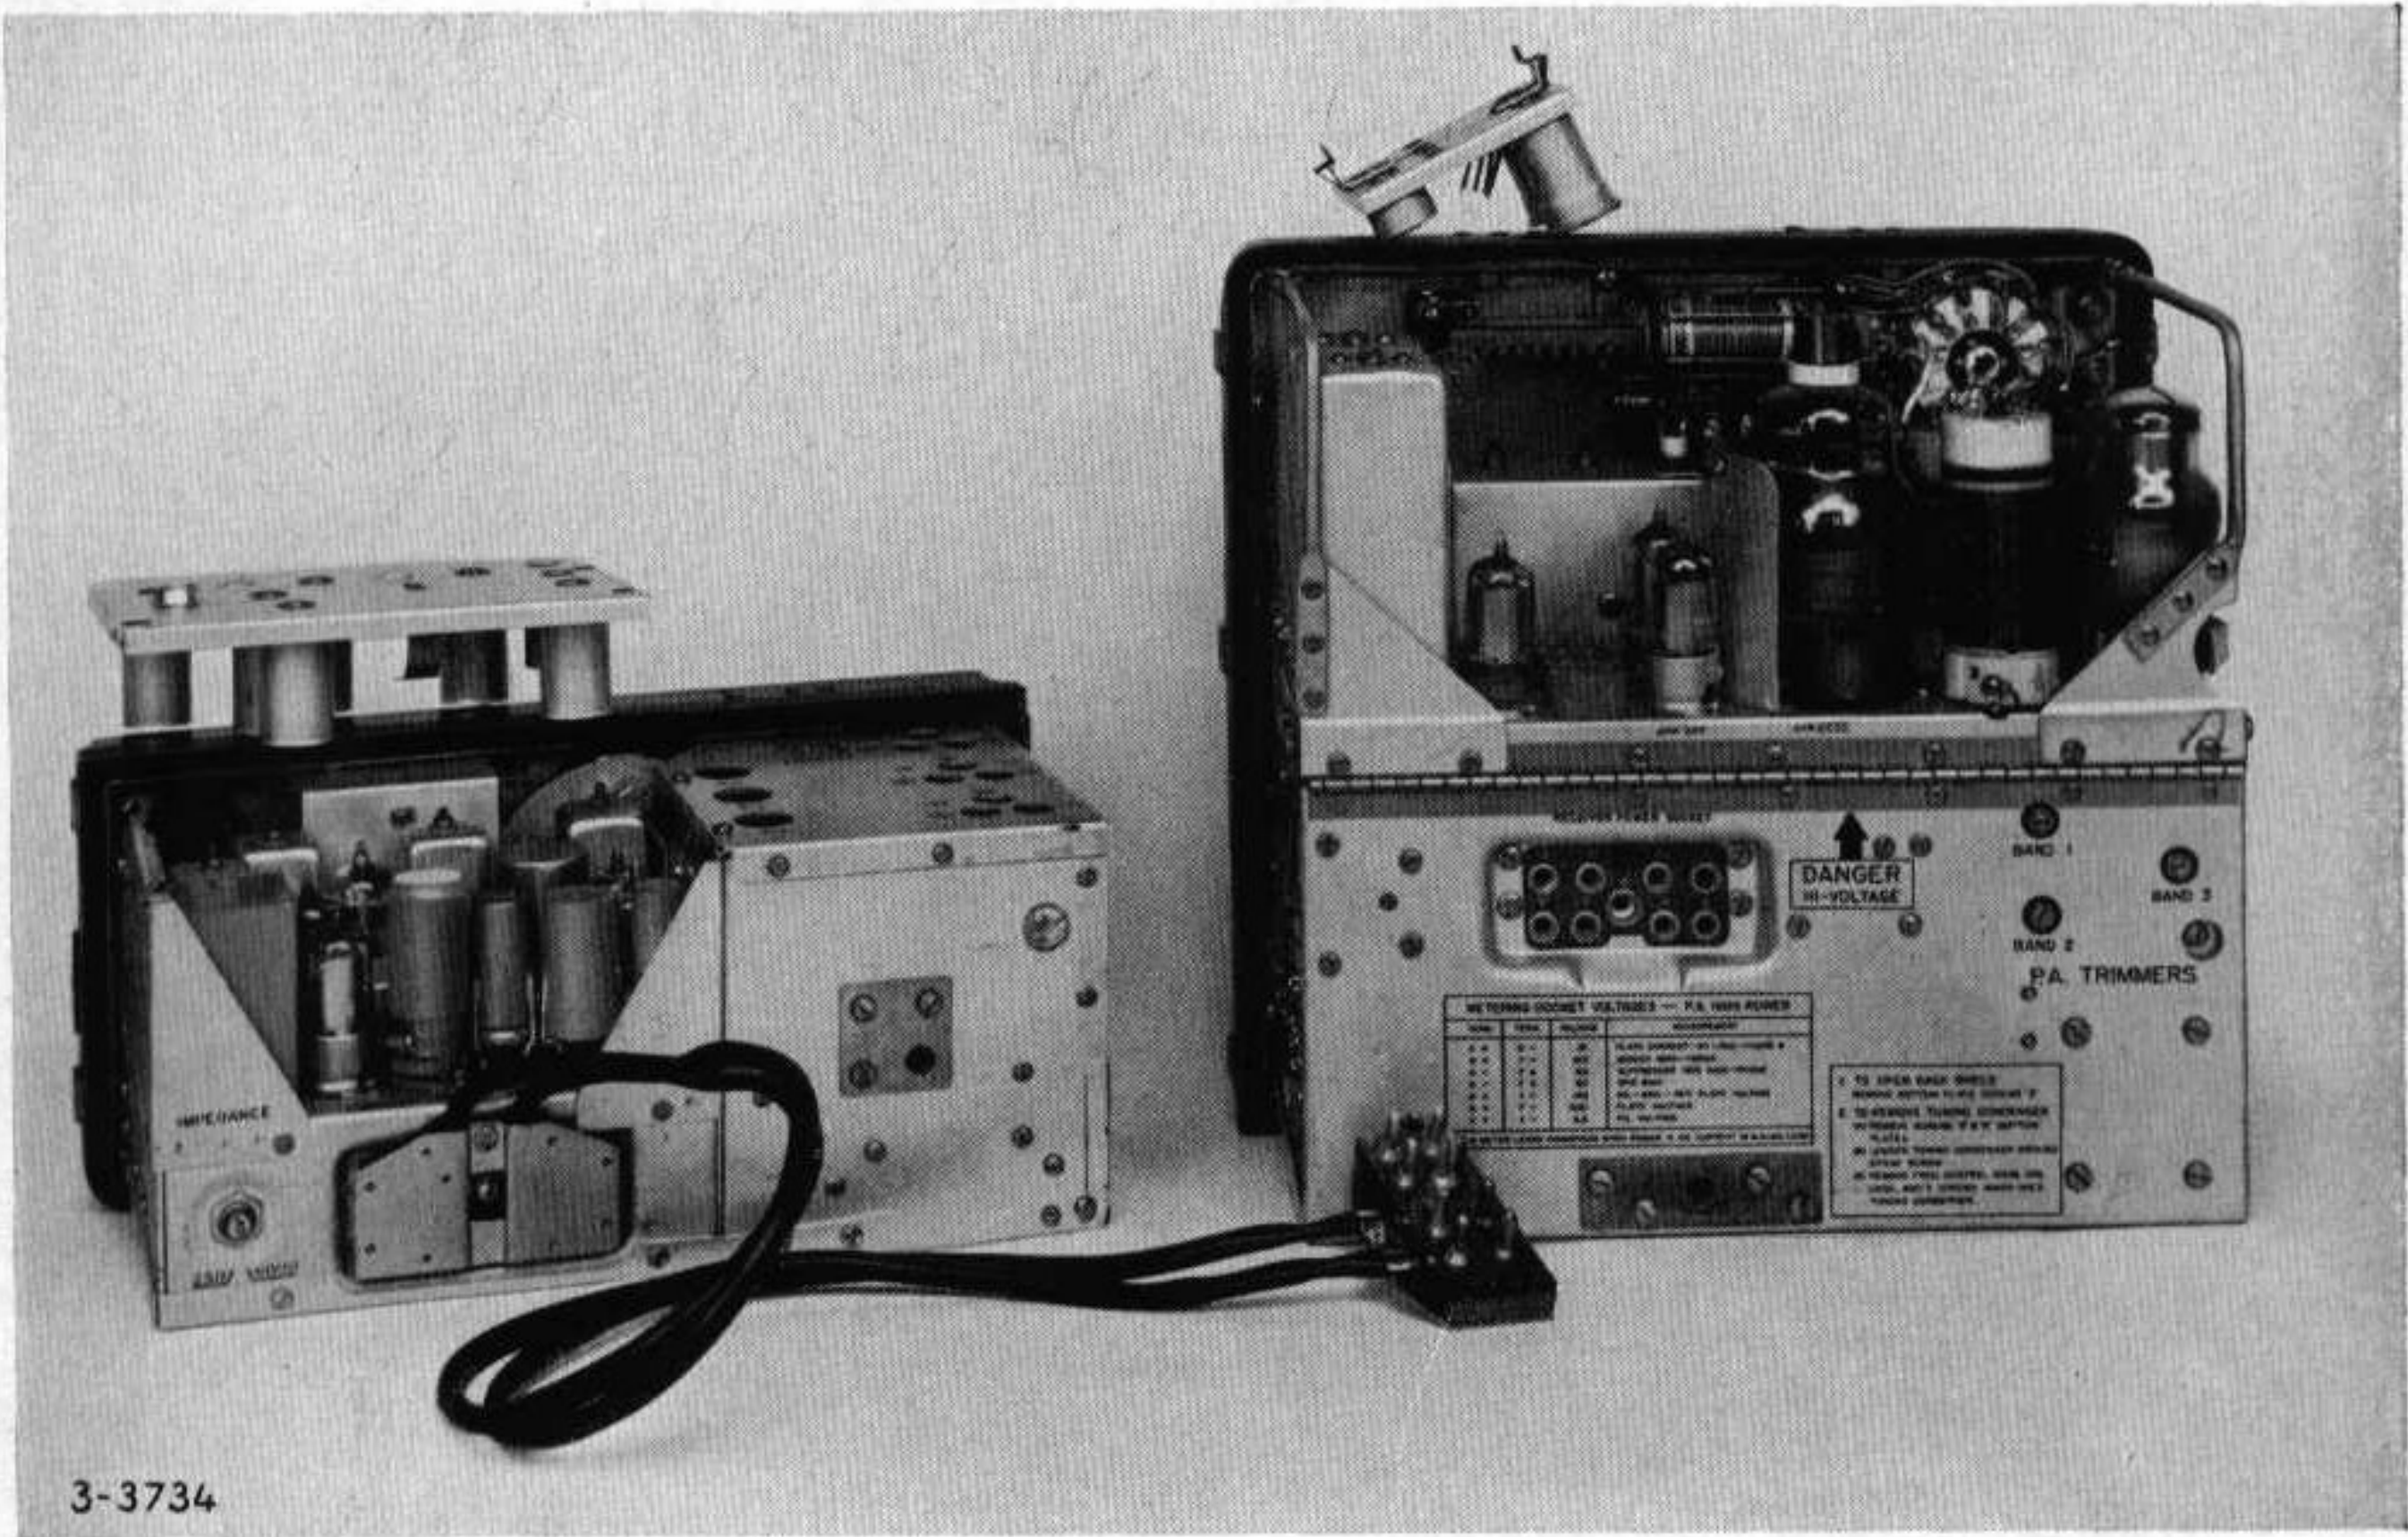
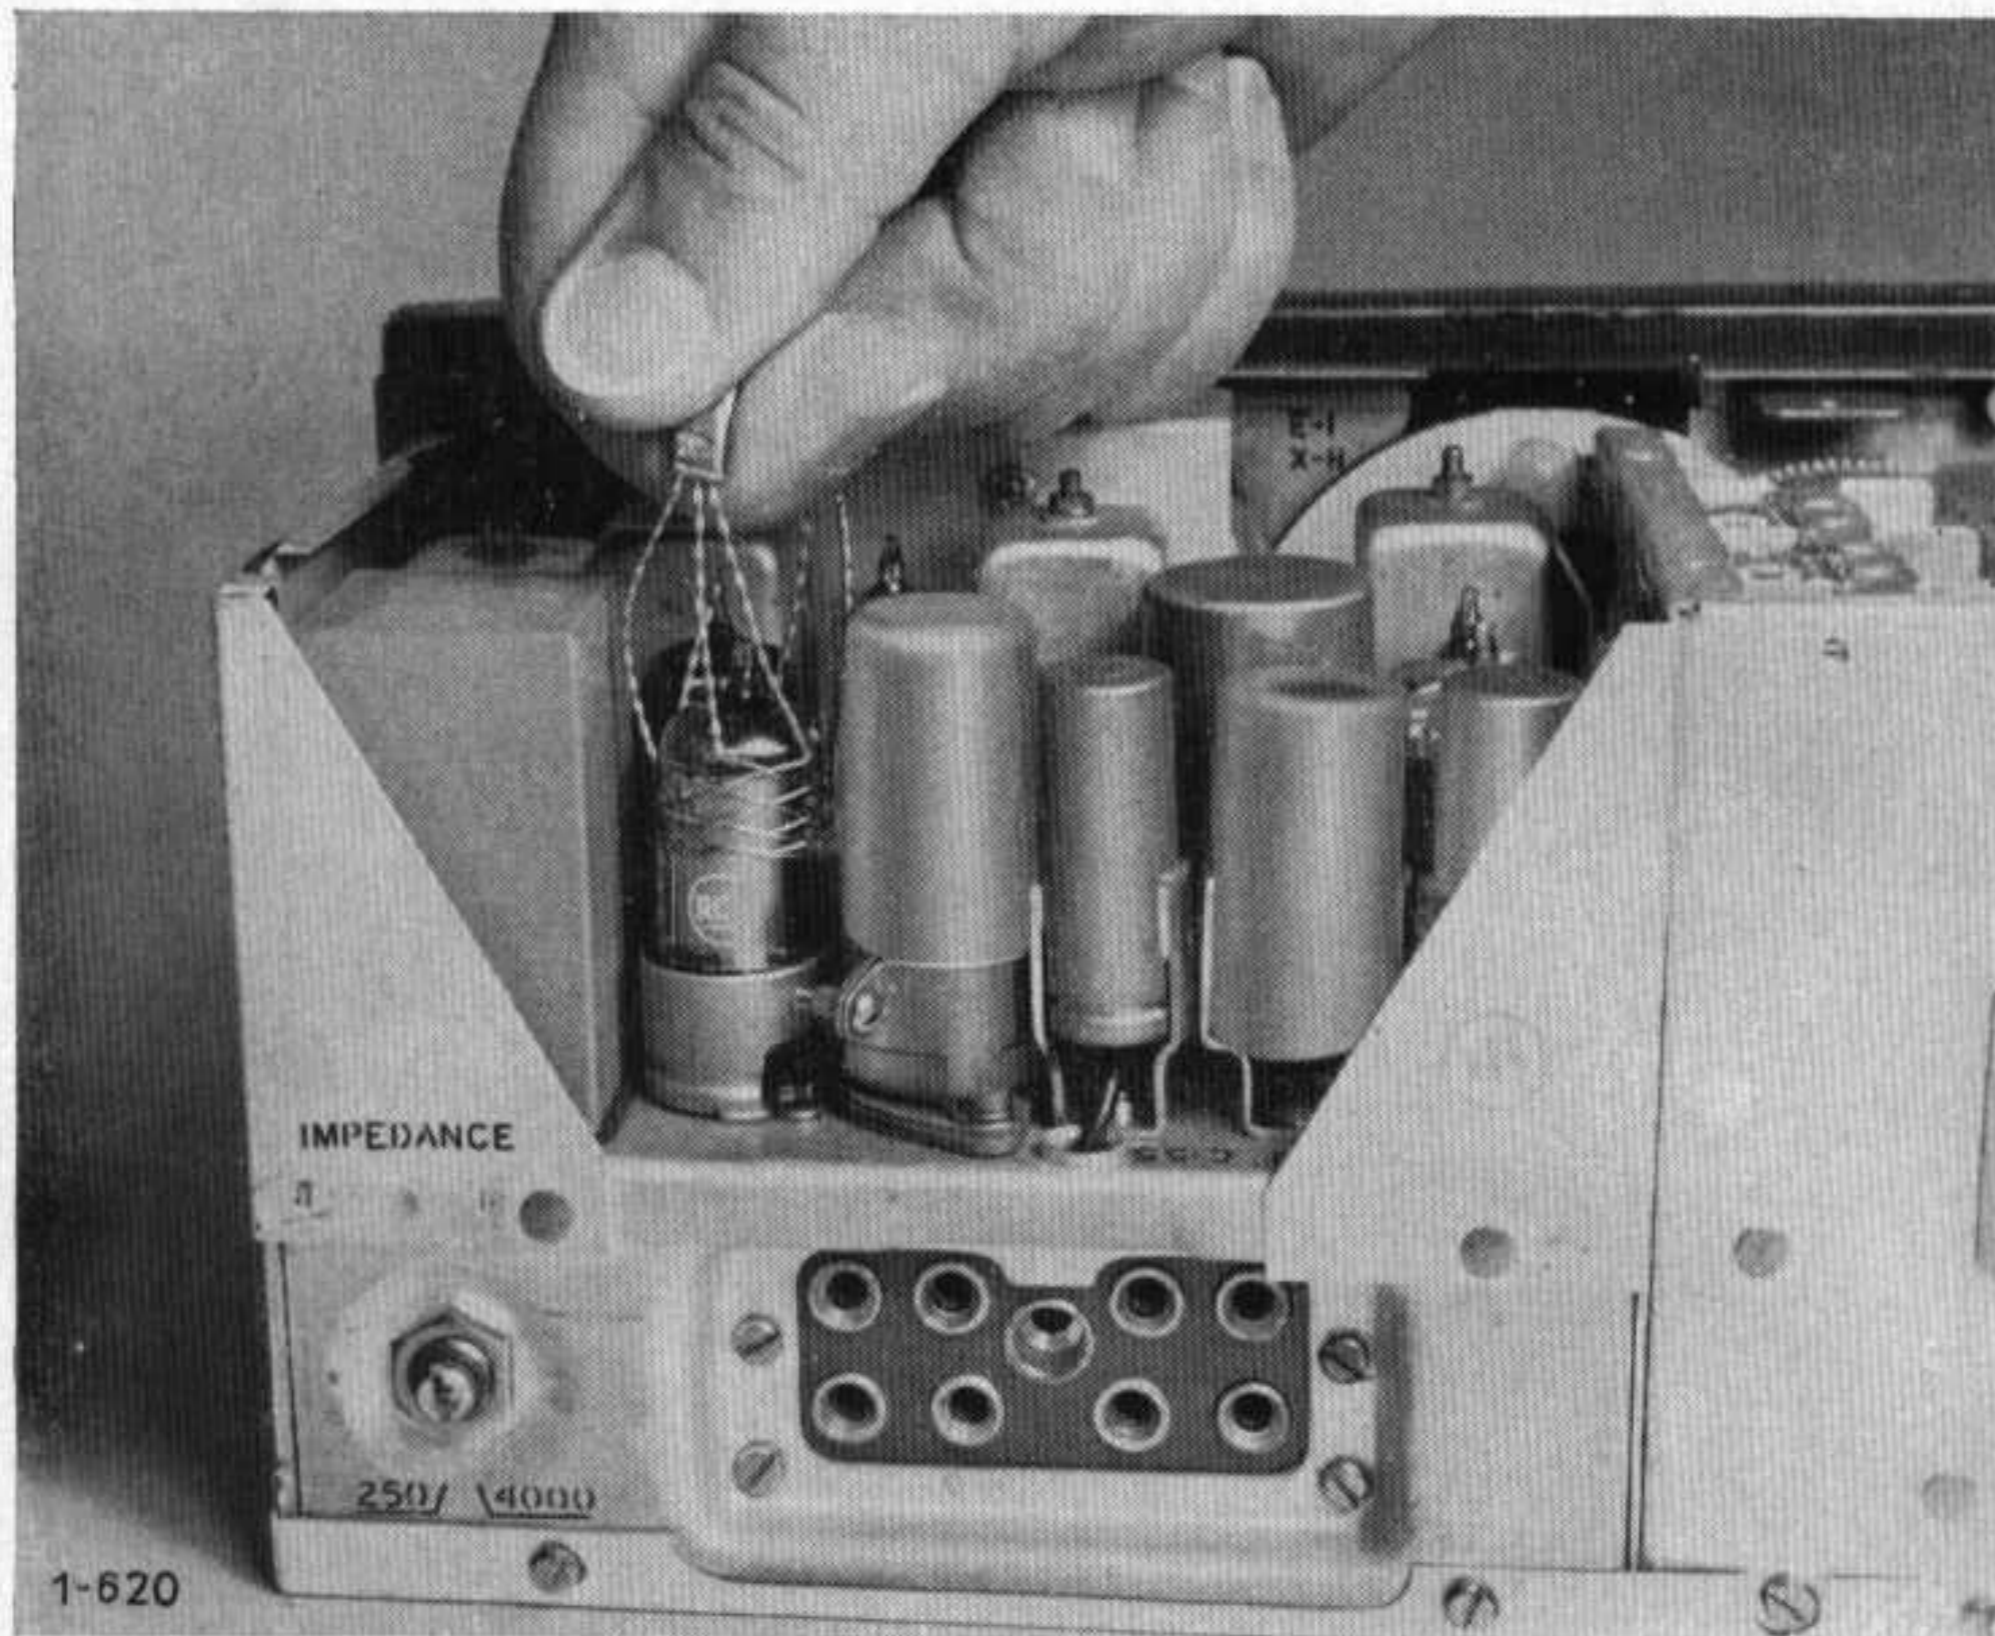

Figure 39. Rear view of transmitter and receiver, and interconnecting cable assembly 3E7173-22-GY.
Figure 41. Removing tubes by means of tube extractor.
a. The receiver tubes and crystal are already installed when shipped. To inspect or replace them, proceed as follows: Remove the cover of Receiver-Transmitter RT-77/GRC-9-GY (par. 7b). Lift the receiver portion partially out of the case and remove the plug of cable assembly 3E7173-22-GY (fig. 39). The tubes and crystal are located beneath a single metal cover (fig. 39) which is removed without tools.
b. The remainder of the tubes and crystals are located under a small plate (fig. 39). The tubes are V101, V102, and V105 and the crystals are 1A, 1B, 2A, 2B, 3A, and 3B. The cover plate can be removed by releasing the spring catches at both ends of the plate and lifting straight upward. The tubes and crystals are then easily accessible. The tubes can be removed as shown in figure 41.
a. INTERNAL CONNECTIONS. The separate transmitter and receiver sections are connected by cable assembly 3E7173-22-GY which is concealed by the front panels of the radio set. The cable is shown in figure 39. To replace the receiver and transmitter in the metal case, proceed as follows:
- (1) Place the empty case in a horizontal position with the open face upward and insert either plug of cable assembly 3E7173-22-GY through the opening in the left-hand corner of the separating partition.
- (2) Insert the connecting cord plug into the corresponding jack on the back of the receiver chassis and gently lower the receiver into the cabinet and fasten the clamps along the side in accordance with paragraph 7.
- (3) Next, place the cable in the small